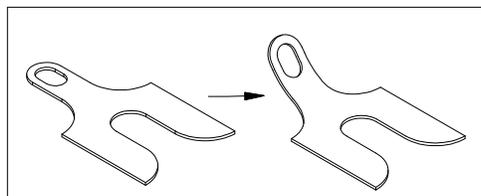
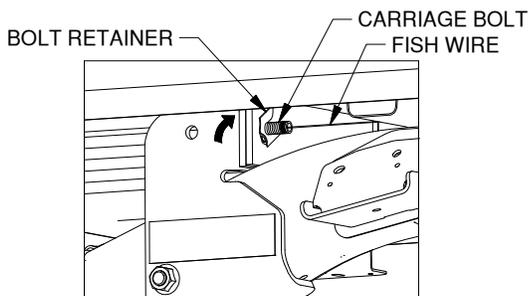

Figure F4: Bolt retainer, before and after.
Figure F5: Carriage bolt installation.
- 6. Secure cross members to side plate.** Make a small bend in the tail of one bolt retainer, see Figure F4. Slide the groove of the retainer over the threads as close to the cross member as possible, as shown in Figure F5. Rotate the tool clockwise to temporarily secure the tool to the carriage bolt while the fish wire is removed and the hardware is added.